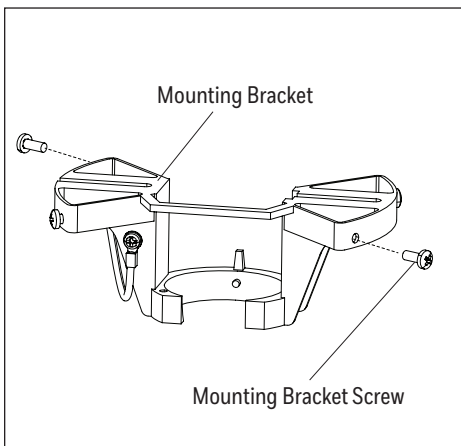

Figure 2.1
1. Loosen all four mounting bracket screws, then completely remove two mounting bracket screws from opposite sides of the mounting bracket that will align with round holes in the canopy. Save for canopy installation (Figure 2.1).